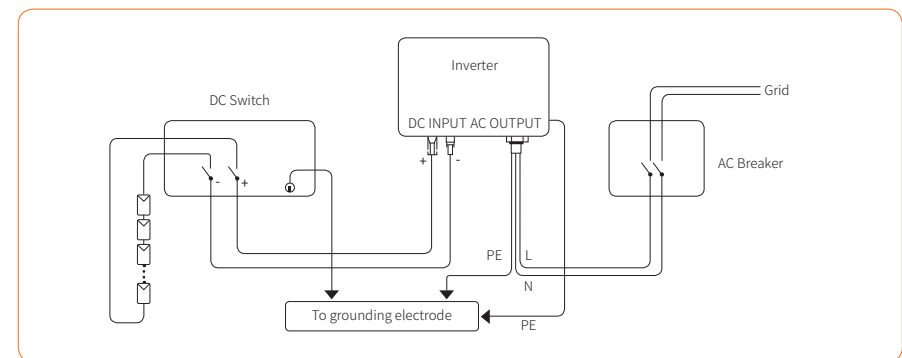

Figure 4-15
- ① The DC switch of Sunways inverter is optional. Local standards or codes may require that PV systems are fitted with an external DC switch on the DC side. The DC switch must be able to safely disconnect the open-circuit voltage of the PV array plus a safety reserve of 20%. Install a DC switch to each PV string to isolate the DC side of the inverter.
- ② The DC switch has to be certified by AS 60947.3:2018 and AS/NZS IEC 60947.1:2015. The Max.current of the DC switch matched by STS-3-6KTL inverter is no less than 30A and for STS-3-6KTL-P inverter is no less than 40A. We recommend the following electrical connection, as shown in Figure 4-15: